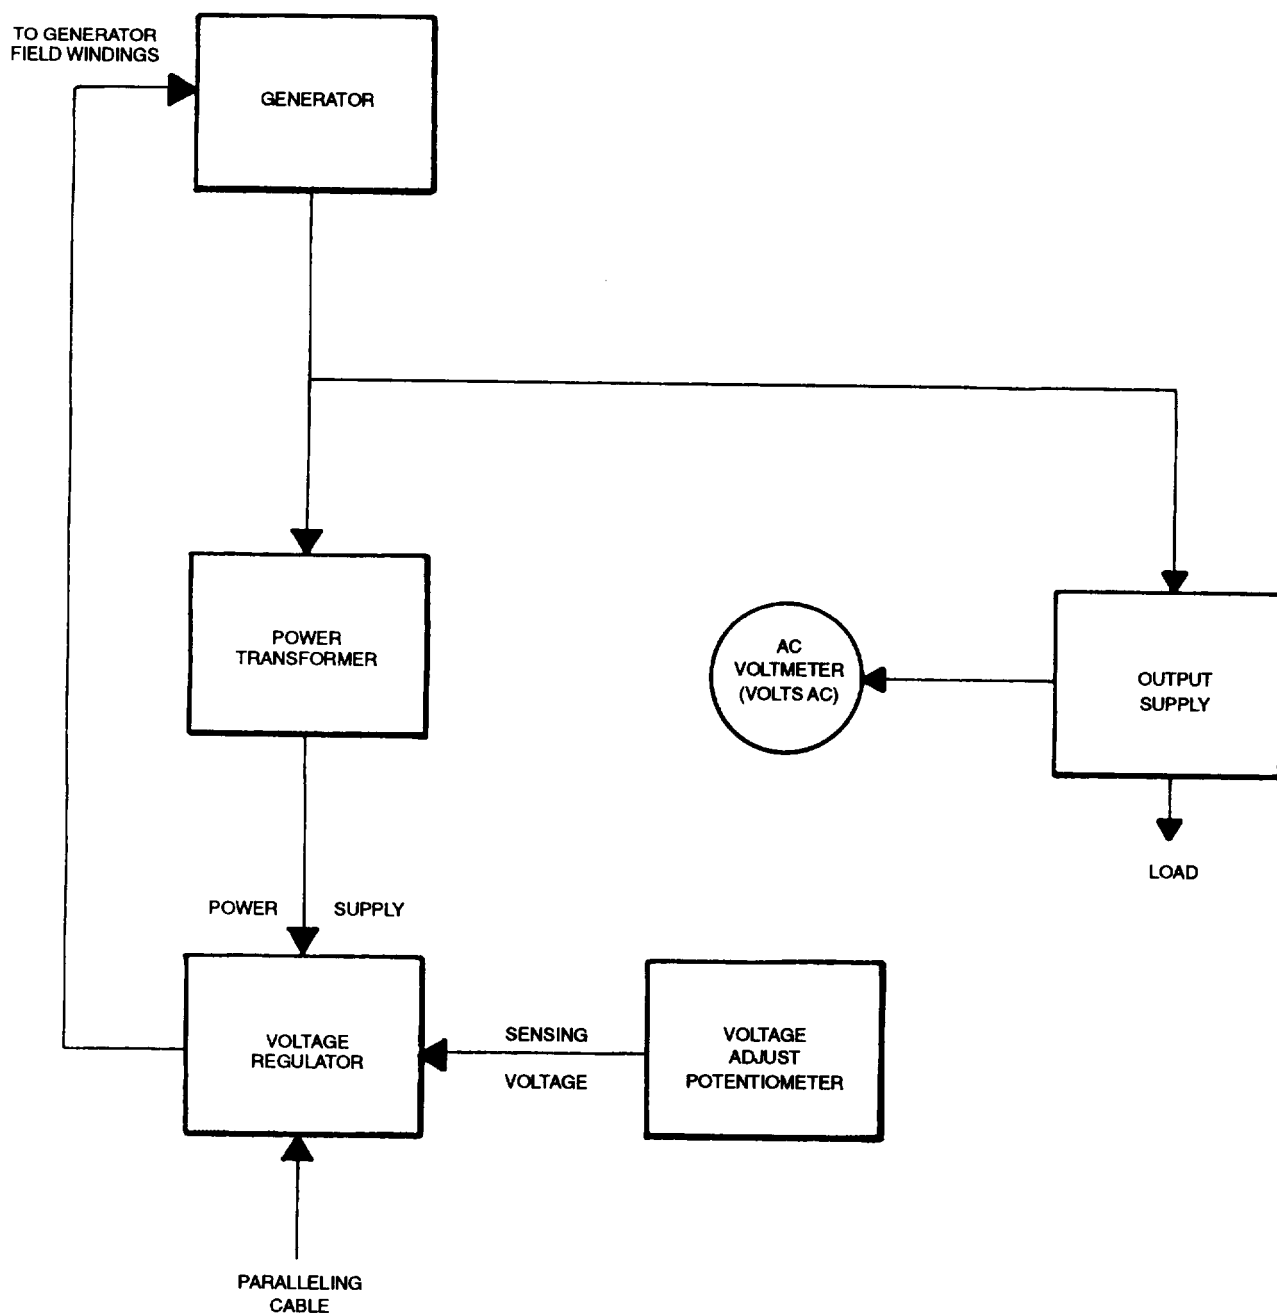

FIGURE 1-11. Voltage Regulation System
1.12.8.2 Field Flash. When the engine reaches sufficient speed (900 rpm), the magnetic pickup causes a set of contacts in the crank disconnect switch to close and energize the field flash relay. This circuit provides current to the exciter field windings which sets up an electromagnetic field. The field current is necessary for the set to generate sufficient voltage for the voltage regulator (FIGURE 1-11) to begin controlling the output voltage of the generator set. The field flash circuit is maintained until the MASTER SWITCH is released from the START position.